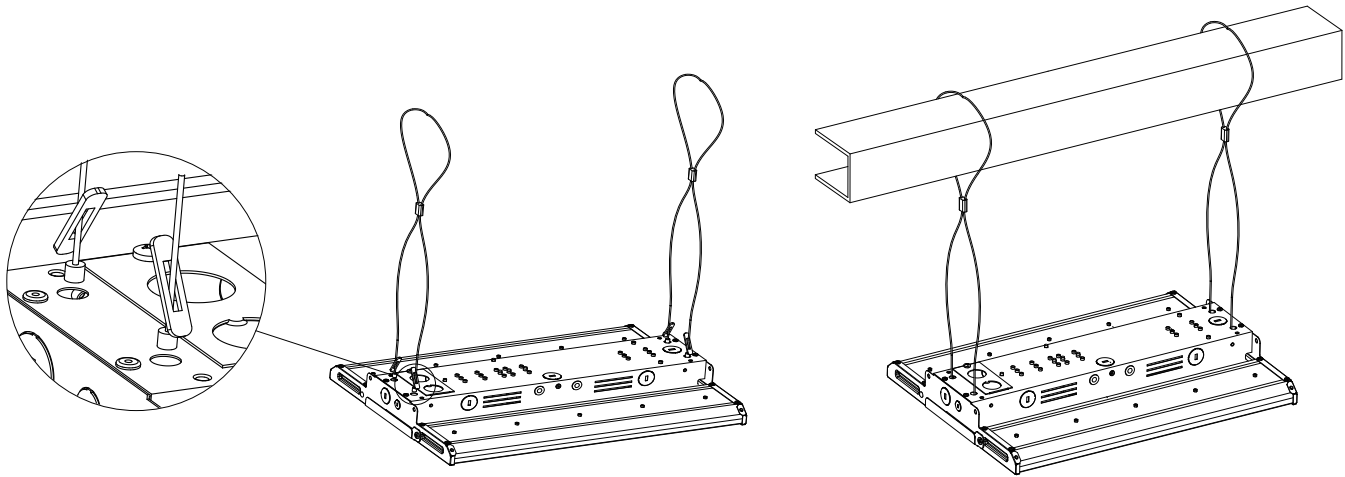

Figure 2
- Secure the end of the aircraft cable (not provided) to a structure using hardware rated for the load. Remove circular knockouts at each end of fixture. Insert each cable's toggle plates into the circular holes located at each end of the fixture. *Pull on each cable to make sure the toggle plates are securely in place. (Figure 2)